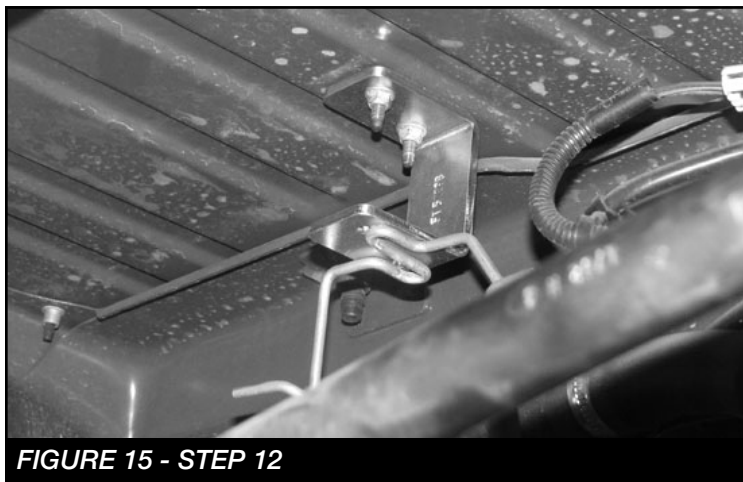
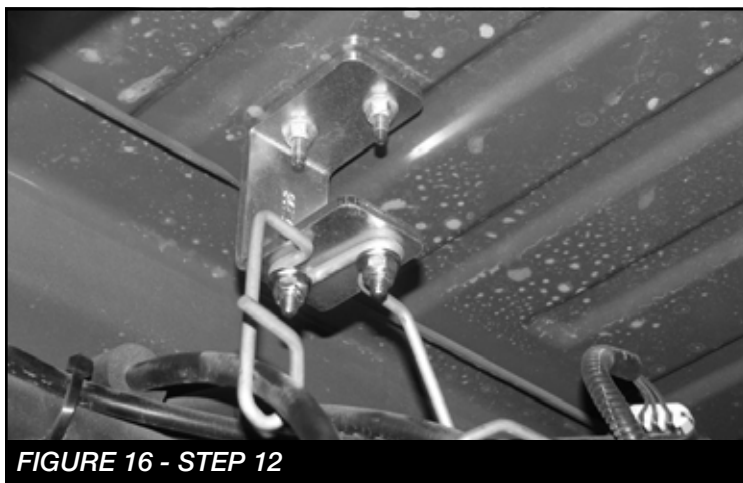

FIGURE 15 - STEP 12
FIGURE 16 - STEP 12
12. Locate FT50298 (E-Brake bracket) and (2) 1/4"-20 X 3/4" bolts and hardware. Disconnect the factory E-brake from the vehicle and install the FT50298 using the factory nuts. **SEE FIGURE 15**. Next, install the brake line hinge to the new bracket using the supplied 1/4" hardware. Torque to 14 ft-lbs. **SEE FIGURE 16**